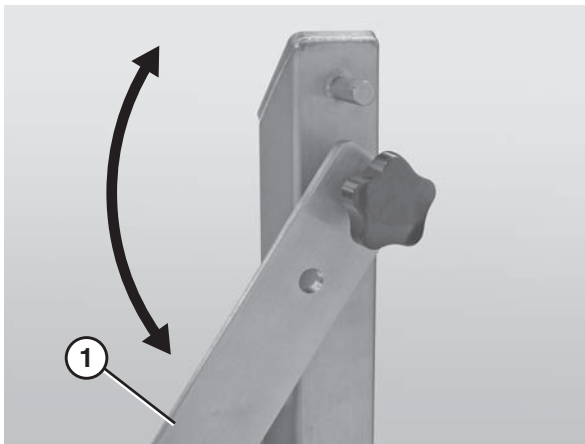

Figure 47
6. Lower the quick release arm (Figure 47, item 1) on one of the stands. *Note: if the conveyor is not equipped with Quick Release (QR Type) stands, it will be necessary to remove the entire stand.* For detailed instructions, refer to the “Sanitary Support Stands Installation, Maintenance and Parts Manual.”